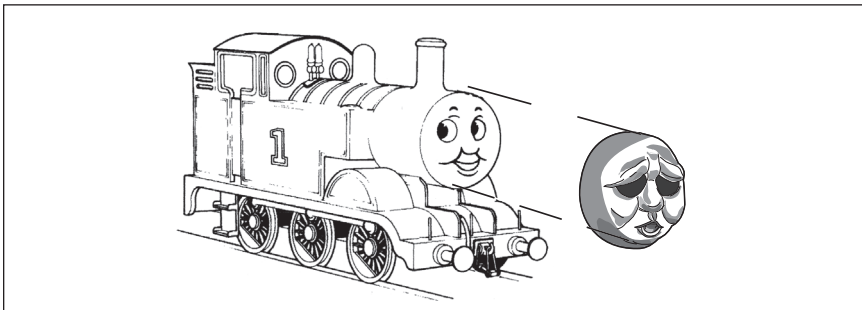

Figure 7. Face installation
**T**o attach one of the faces, carefully position it in front of the permanent smiling Thomas face and push it straight on. To remove it, simply pull it straight off. Please remember that the smiling Thomas face cannot be removed. Refer to Figure 7.